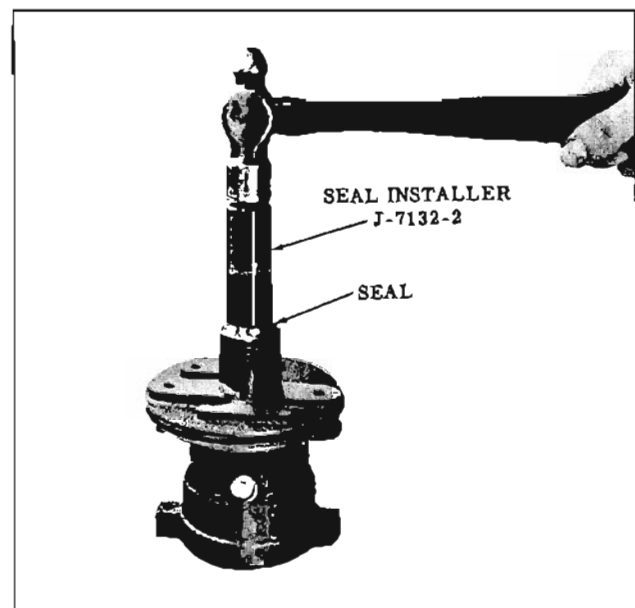

Fig. 8-31 Installing Pump Seal
2. Apply Special Seal Lubricant (Part No. 567196) to the sealing lips of a new drive shaft seal and drive the seal into the pump body using Tool J-7132-2. (Fig. 8-31) Remove tool.